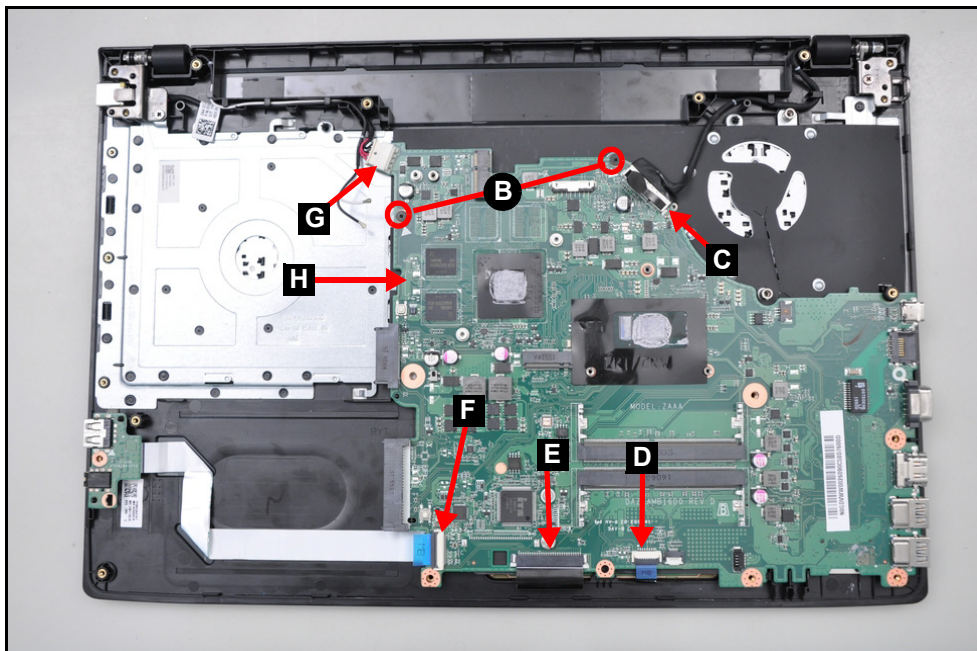

Figure 3-95. Replacing the Mainboard
1. Place the mainboard (A) onto the top assembly (Figure 3-95).
2. Install and secure two (2) screws (B) to the mainboard (Figure 3-95).
3. Connect the I/O board FFC to the mainboard connector (F) (Figure 3-95).
4. Connect the DC-in cable to the mainboard connector (G) (Figure 3-95).
5. Connect the touchpad FPC to the mainboard connector (D) (Figure 3-95).
6. Connect the keyboard FPC to the mainboard connector (E) (Figure 3-95).
7. Connect the keyboard backlight FPC to the mainboard connector (H) (for select models only) (Figure 3-95).
8. Connect the eDP cable to the mainboard connector (C) (Figure 3-95).